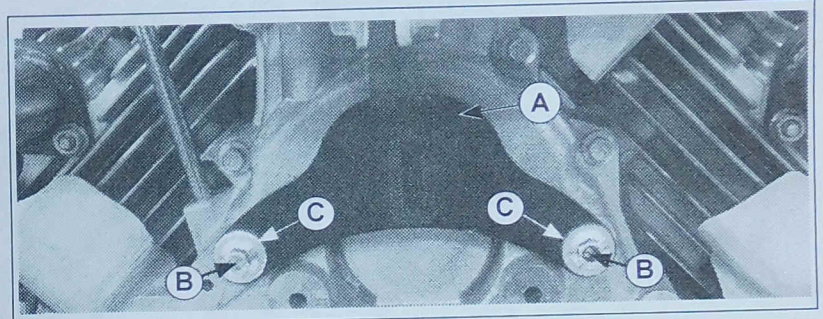

Figure 2. Secure Muffler Bracket to Closure Plate.
4. Install the new muffler bracket (A) and secure it to the closure plate using the two M8x30 screws (B) and two flat washers (C). See Figure 2. Torque screws to 24.4 N·m (216 in. lb.).